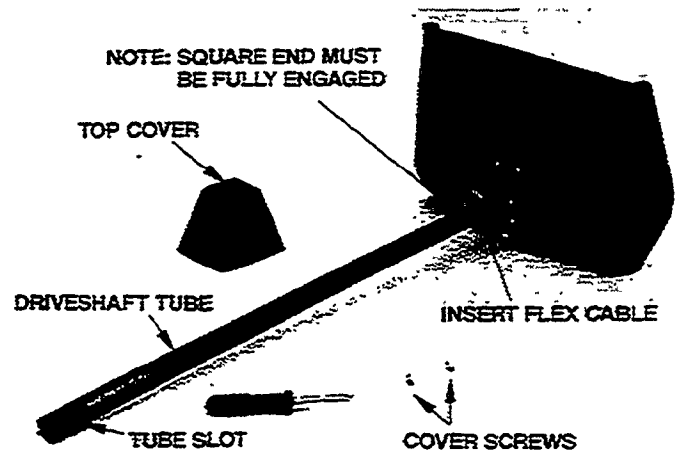

Figure 35
- Using a Phillips screwdriver, remove the two (2) screws holding the top cover (Figure 35). Remove the cover.
- Slide the flex cable **partially** out of the non-slotted end of the tube and insert its square end into the drive gear of the snow thrower. Make certain the squares of the flex cable and the drive gear are engaged before proceeding (Figure 35).